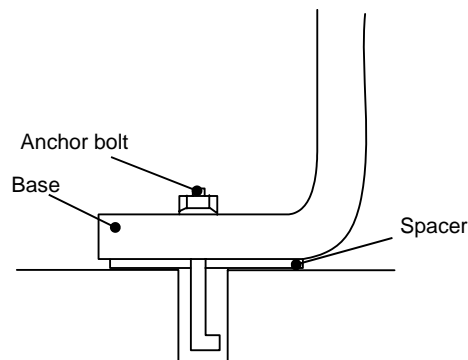

Figure 2
3. Insert a spacer between the concrete surface and the bottom of the base to level the pump horizontally. Next put a level on the discharge flange surface to adjust the pump horizontally in the direction of the pump shaft. Also adjust the direction vertical to the pump shaft at the same time by placing a level on the suction flange surface. Pour cement mortar into the anchor bolt holes after leveling has been completed. When the cement mortar is hardened, fasten the anchor bolt nuts firmly. [Fig. 2]